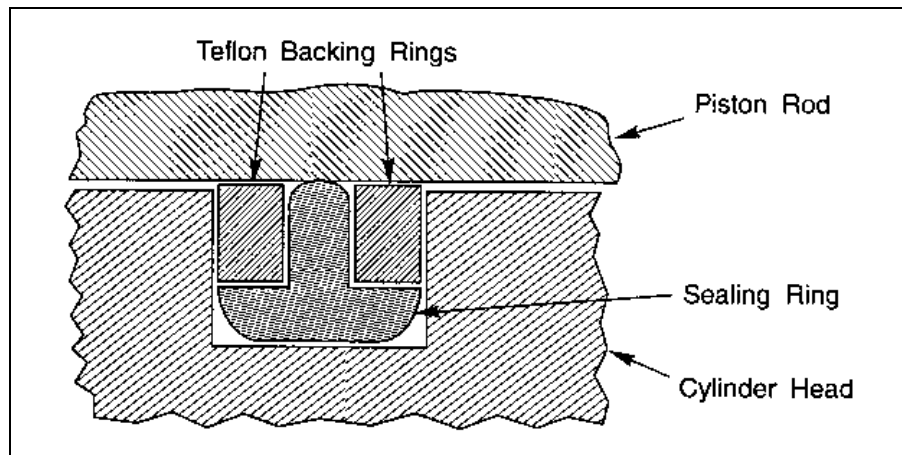

Figure 1—Piston Rod Seal Placement
1. Install the piston rod sealing ring and Teflon backing rings as shown in Figure 1.